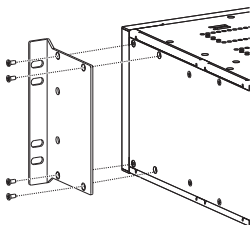

FIG. 2 Attach rack ears to sides of enclosure
1. Attach the rack ears as shown in FIG. 2 (screws provided).